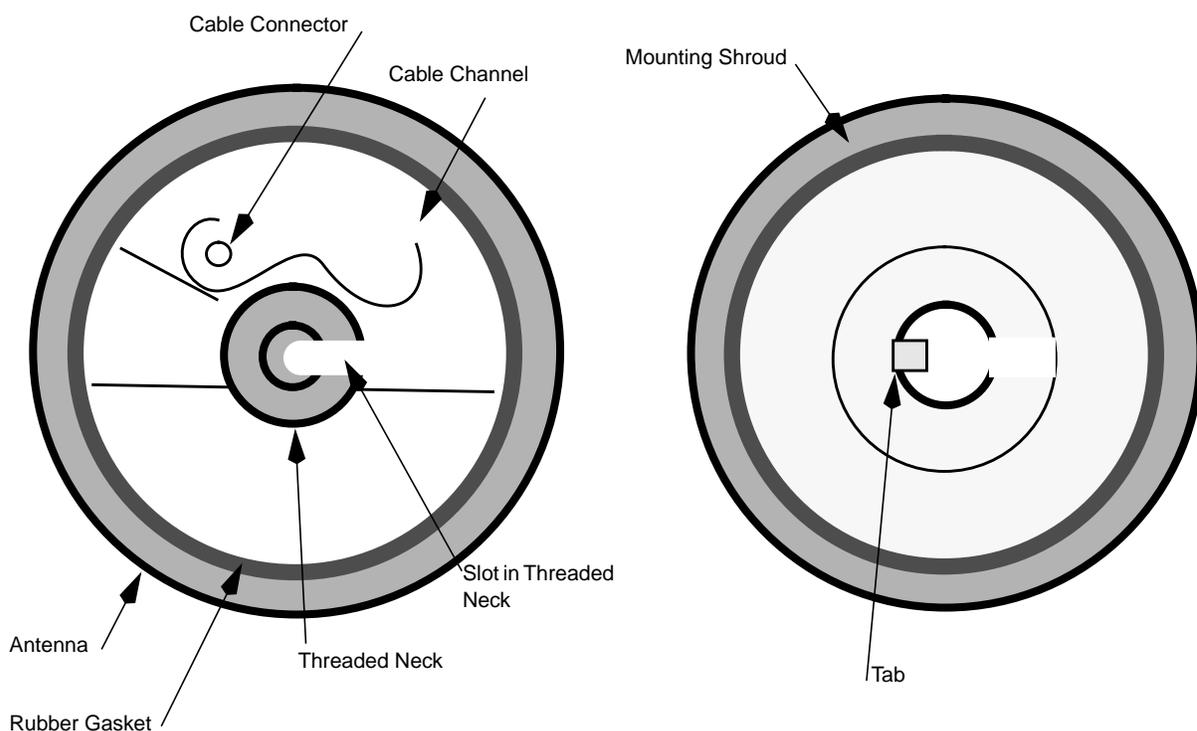

Figure F-3: Location and Orientation of the Cable Channel, Tab, and Slot
6. Rotate the mounting shroud so the small tab in the center hole aligns with the cutout on the threaded neck of the antenna (see Figure F-3).